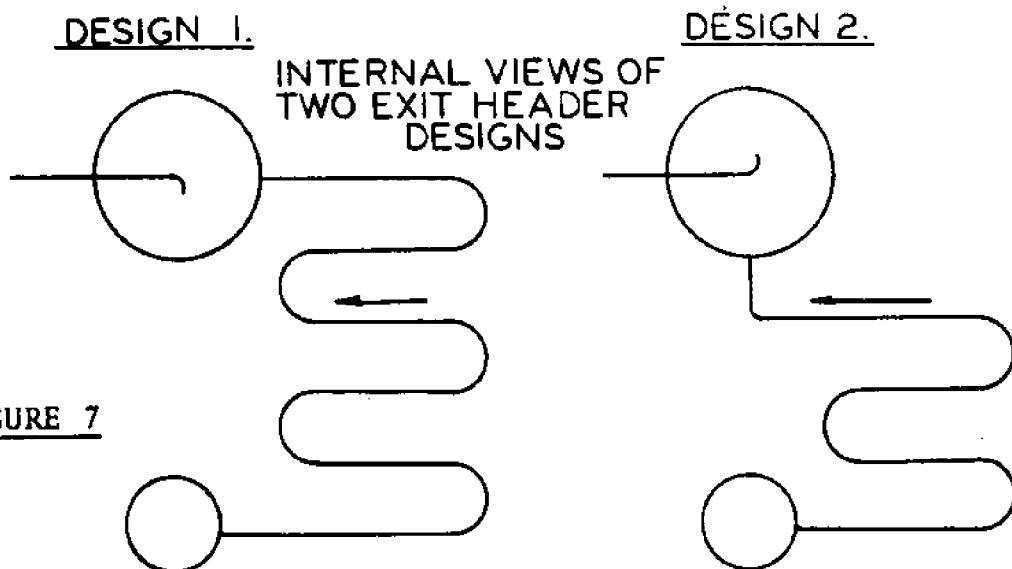

FIGURE 7
Oil return can also be a problem on headered coil systems. The recommended procedure is to have the refrigerant inlet at the bottom, thus making it like a flooded, or "wet expansion" (WX) system. In general, the inlet header is smaller than the outlet header. As seen in Figure 7, the oil return problems are apparent. Another type of evaporator, the dry expansion (DX) system, feeds from the top; the refrigerant goes downhill. The oil return problems will be similar.